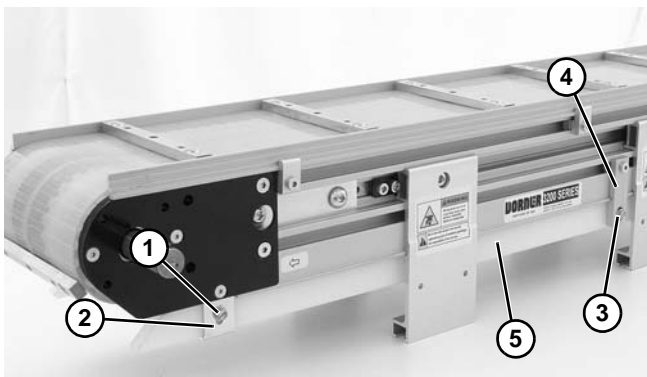

Figure 49
2. Remove screw (**Figure 49, item 1**) and support clip (**Figure 49, item 2**).
3. Remove screw(s) (**Figure 49, item 3**) from each retaining clip (**Figure 49, item 4**), and remove lower wear strip (**Figure 49, item 5**).
4. Install new wear strip (**Figure 49, item 5**) and secure with retaining clips (**Figure 49, item 4**).
5. Install support clip (**Figure 49, item 1**) and screw (**Figure 49, item 2**).
6. Adjust wear strip up or down as needed on slotted holes in support clip (**Figure 49, item 1**) and retaining clip (**Figure 49, item 4**), and secure with screws (**Figure 49, item 2 and 3**).